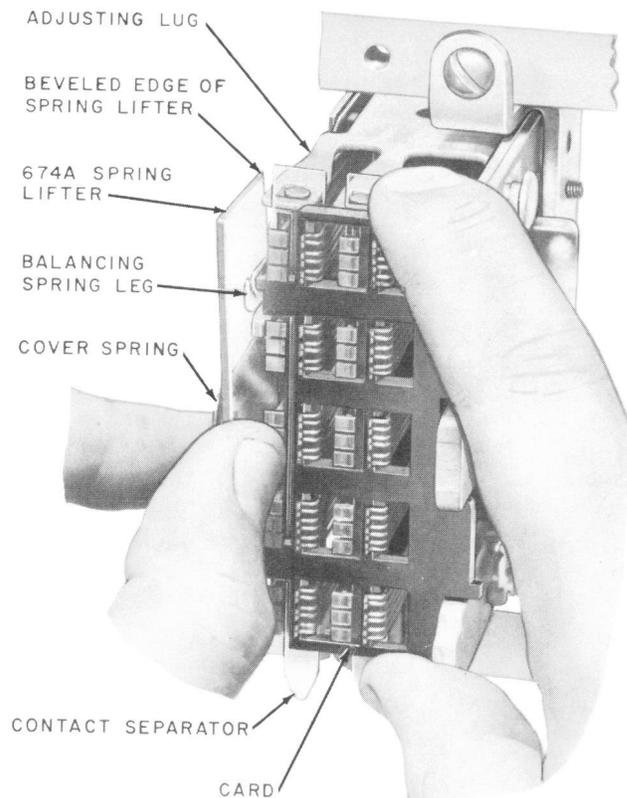

Fig. 6—286-Type Relay Inserting 674A Spring Lifter
the right side of the cover spring and ends of the balancing spring legs with the bevel toward the card. Hold the card toward the right with the KS-6320 orange stick and move the spring lifter slightly to the left to disengage the balancing spring legs from the card. Then insert the spring lifter between the adjusting lugs and the cover spring and balancing spring legs until the outer edge of the lifter is in line with the outer edge of the cover spring as shown in Fig. 6. Remove the pressure against the card by moving the spring lifter to the left with the left hand. Then grasp the card between the thumb and forefinger as shown in the figure and carefully remove the card.
Loosen the thumb nuts and remove the bar from the 665B bridge. Remove the bridge studs. Hold the card between the thumb and forefinger, as shown in Fig. 6, with the surface of the card having recesses toward the relay and the larger rectangular openings in the card toward the left. Place the thumb of the other hand against the right side of the 674A spring lifter which was previously positioned on the relay (3.10). While pushing the spring lifter to the left, insert the card through the gaps between the contacts. Remove the spring lifter. Position the card so the balancing spring legs engage the associated lugs of the card.
3.24 Removing Card: Remove the card as follows: Place the 674A spring lifter against the right side of the cover spring and ends of the balancing spring legs with the bevel toward the card. Move the spring lifter slightly to the left to disengage the balancing spring legs from the card. Then insert the spring lifter between the adjusting lugs and the cover spring and balancing spring legs until the outer edge of the lifter is in line with the outer edge of the cover spring in a position similar to that shown in Fig. 6. Remove the pressure against the card by moving the spring lifter to the left with the left hand. Then grasp the card between the thumb and forefinger and carefully remove the card.
Loosen the thumb nuts and remove the bar from the 665A bridge. Hold the card between the thumb and forefinger in a manner similar to that shown in Fig. 6, with the surface of the card